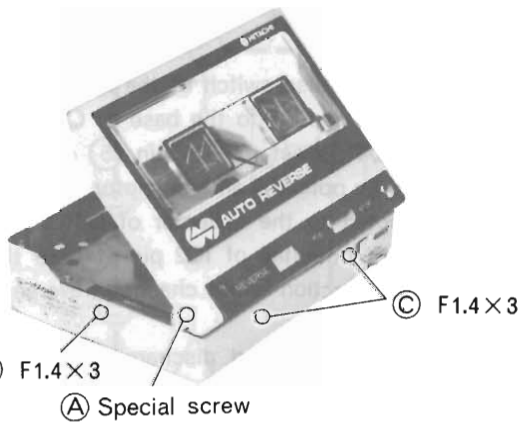
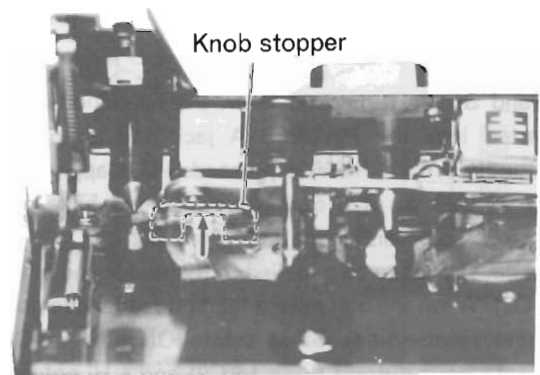

Fig. 2
Fig. 5
Remove 5 fixing screws (C) shown in Figs. 2, 4 and remove the volume control knob fixing special screw. Then push the knob stopper in the direction of the arrow as shown in Fig. 5 using tweezers to release it and remove the tape select knob.